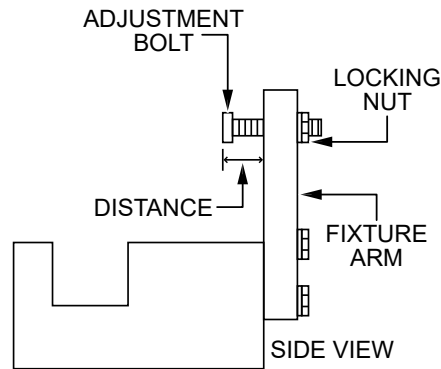

Figure 54. Trowel Arm Adjustment Tool (Side View)
Figure 54 illustrates a **trowel arm adjustment tool**. As a trowel arm is locked into the adjustment tool, the trowel arm bolt is adjusted to where it contacts a stop on the fixture. This will consistently adjust all of the trowel arms, keeping the finisher as flat and evenly pitched as possible.
3. Adjust the fixture **adjustment bolt distance** shown in Figure 54 to **0.15 in. (3.81 mm)**.